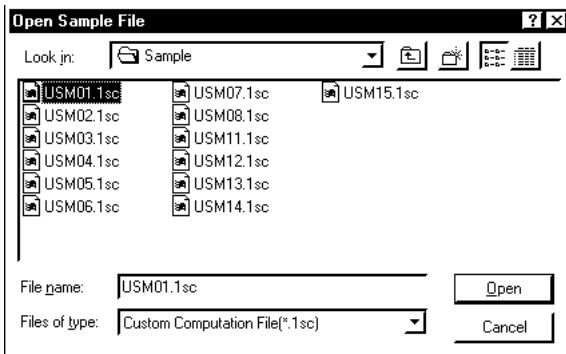

Figure 5.1.5 [Open Sample File] Dialog Box
- ③ If you are configuring a custom display using a sample file, choose <Open Sample File>. Click the <Open Sample File> option button, then the <OK> button. The [Open Sample File] dialog box (Figure 5.1.5) appears.